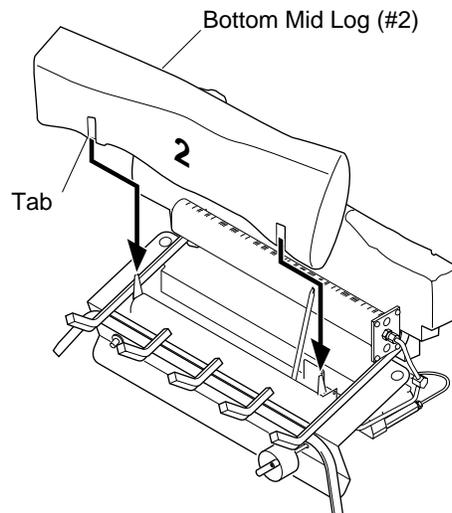

Figure 18 - Installing Bottom Mid Log
2. Slide bottom mid log (#2) into place in behind front burner. Make sure tabs at bottom of log are behind rear burner (see Figure 18).